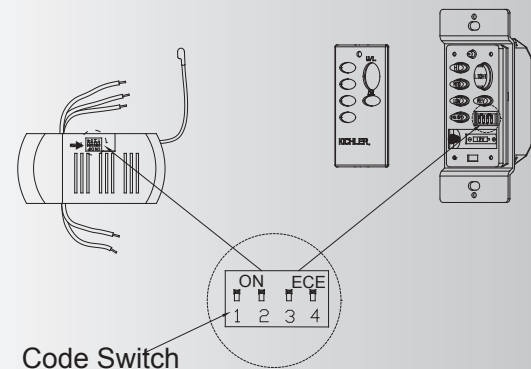

Fig. 19
Step 3. You can leave the frequency switches at the factory setting. Or you have to change the dip switch setting in the remote if you are using more than one fan in the same area and want to control them separately. Remove the battery and change the dip switch setting, assuring that they are different from the other fans. Reinstall the battery and switch plate on the control. (Fig. 19)